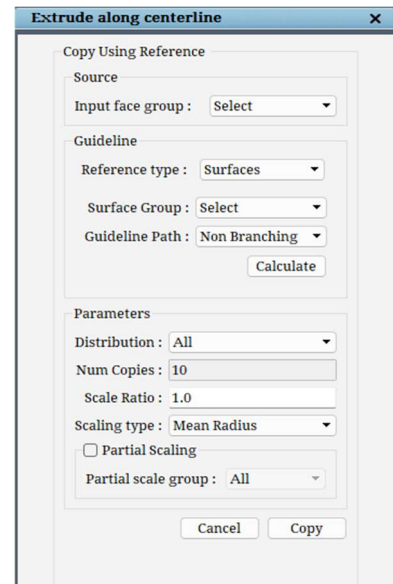

Figure 4.57: Extrude dialog box
**Extrude** button is located under *Edit(Topology)* section, which helps in automatic topology creation for any given geometry which is tubular in nature. For e.g. Consider a duct that has circular/elliptical cross-section throughout. Given a cross-sectional 2D topology faces, the extrude tool automatically traces the surface curvatures and copies the given 2D faces smartly and links them together. Clicking on **Extrude** will open a dialog box, as shown in Figure 4.57. It has three sections, of which the first section is called as the **source** where the input 2D faces should be selected under **Input face group**. The second section is called **Guideline**, which has two input options, namely Reference Type and Surface/Wireframe group. The **Reference Type** has three options such as Surfaces, Curve and wireframe. If **Surface** is